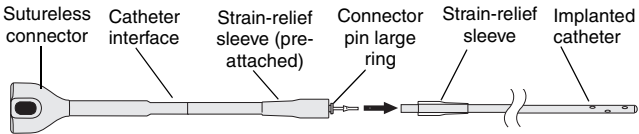

Figure 4. Inserting the connector pin.
2. On the catheter interface, grasp the pre-attached strain-relief sleeve near the connector pin and insert the connector pin into the implanted catheter until the catheter is against the connector pin large ring. Be careful not to disrupt the catheter placement in the spine (Figure 4).